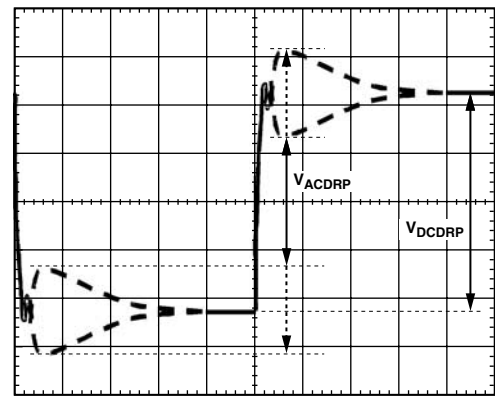

Figure 3. AC Loadline Waveform
Figure 3 shows the typical transient response using the compensation values.
15. The waveform should look something like Figure 3. Use the horizontal cursors to measure  $V_{ACDRP}$  and  $V_{DCDRP}$  as shown. **DO NOT MEASURE THE UNDERSHOOT OR OVERTHOOT THAT HAPPENS IMMEDIATELY AFTER THE STEP.**